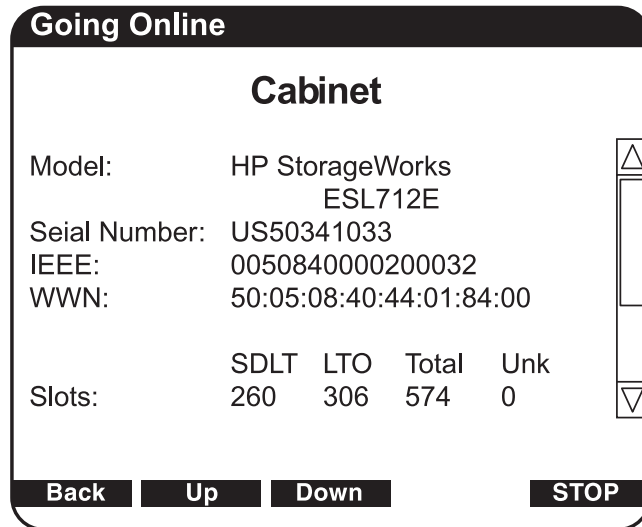

Figure 27: Cabinet screen
1. From the **Menu** screen, use the up and down arrows to highlight **Cabinet**, then press **Select** to display the **Cabinet** screen (see Figure 27):